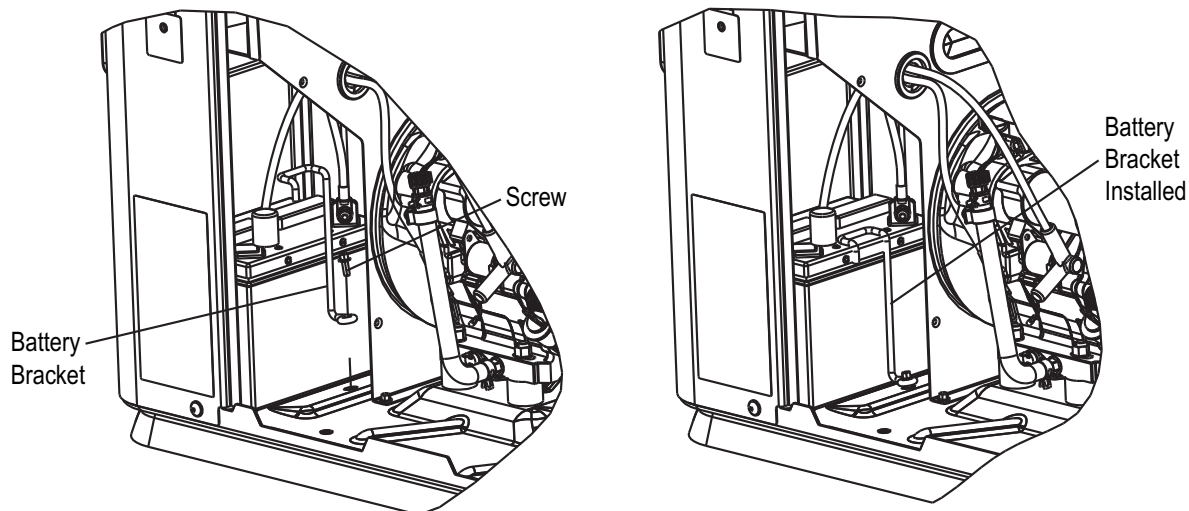

Figure 6-4. Battery Installation
13. Install the battery bracket provided in the loose parts and mount it securely to the base using the M6 thread forming screw provided (Figure 6-4.).